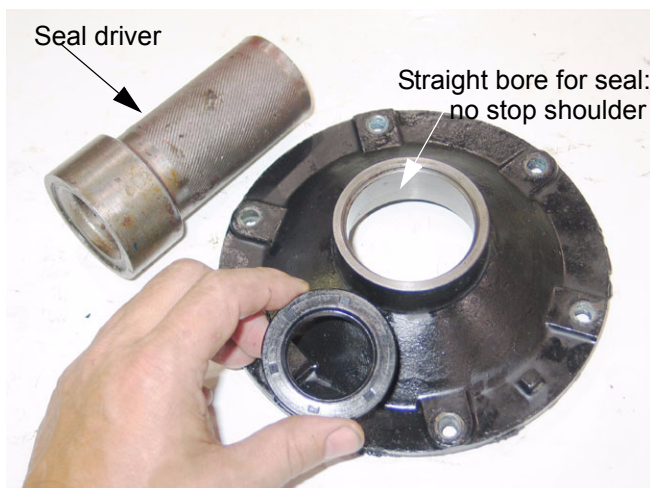

Figure 6.10
- 6.10. To reassemble the axle cover: See Figure 6.10.